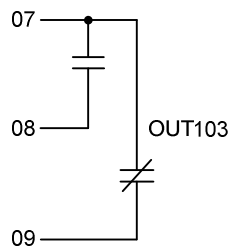

Figure 3 Example SEL-751A Form C Output Contact
- Wire the trip contact to trip the circuit breaker. Ensure the normally closed contact is used between Pins 07 and 09, as shown in Figure 3.